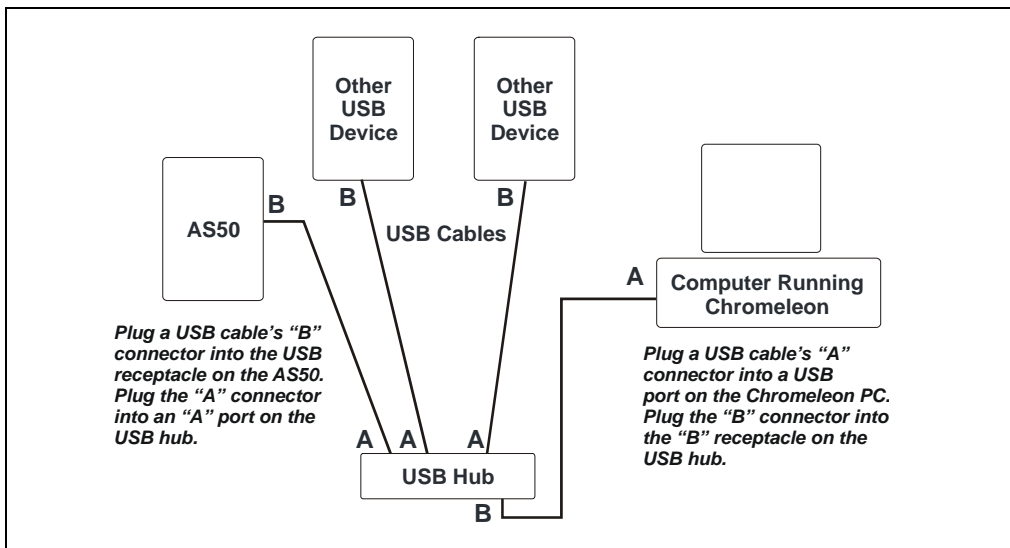

Figure B-9. Connecting the AS50 to a USB Hub
3. If there are no unused USB ports on the PC, connect the AS50 to an external USB hub (P/N 060392) and connect the Chromeleon PC to the hub (see Figure B-9).